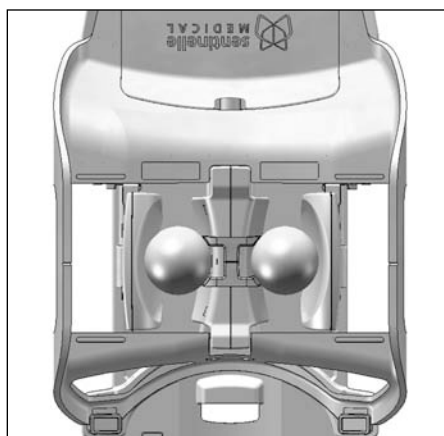

Figure 26: 16 Channel - Phantom Setup
9. When the content of the CD installation is complete, the cursor will appear and you will see the message as shown in Figure 26. Press enter to exit the Coil CD installation window.
4. Add spherical GE phantoms and adjust lateral coils so that lateral coils lightly touch the phantoms as shown in Figure 26.